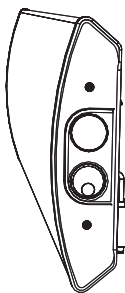

Figure 1
Wall fixing (see Figure 1):
1. Make 4 holes in the wall, as shown in Figure 1.